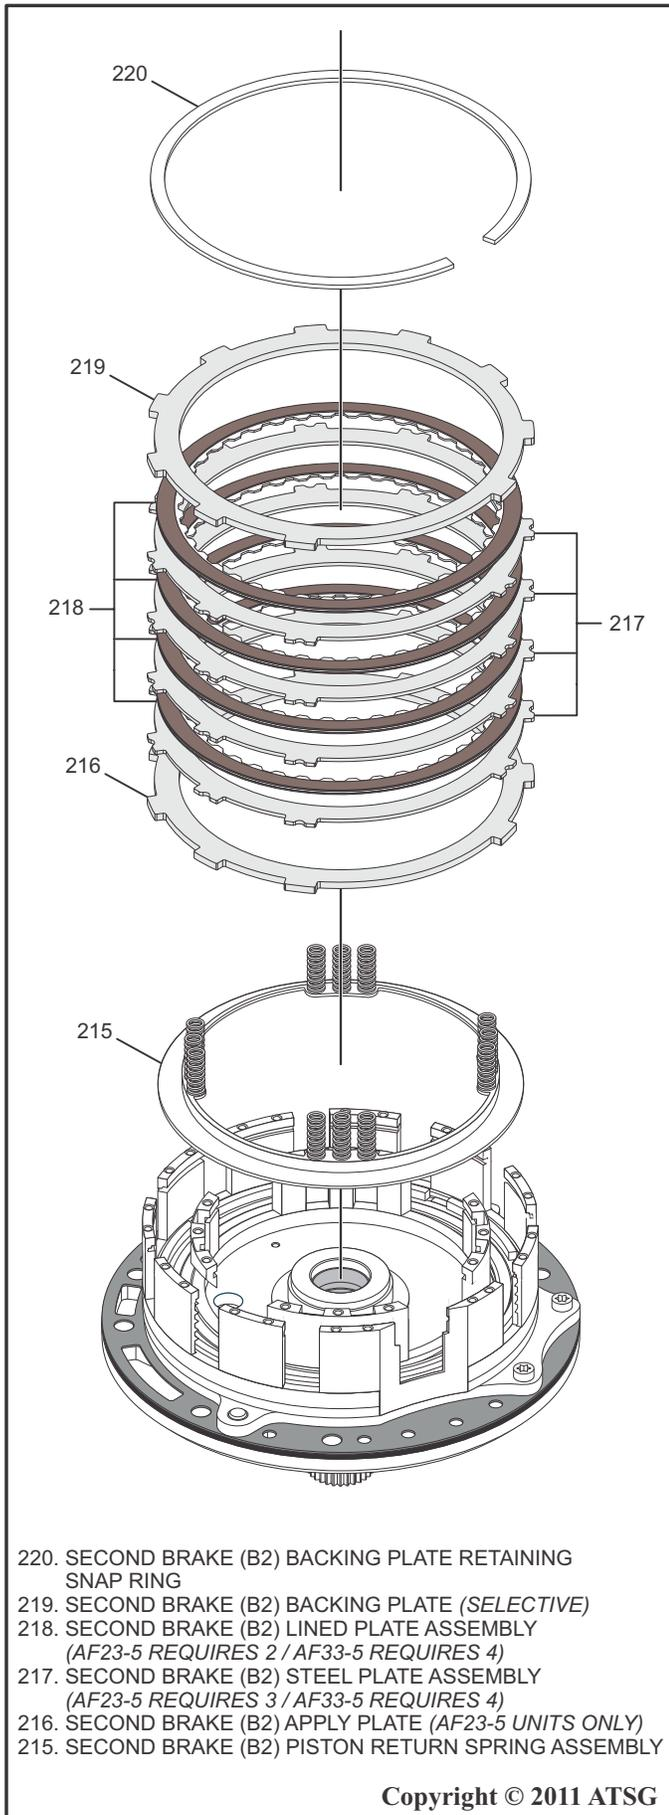

Figure 95
7. Using SST J 28585 or a small screw driver, remove Second Brake (B2) Backing Plate Retaining Snap Ring as shown in Figure 95.
8. Remove the Second Brake (B2) Backing Plate, the Lined Plate and Steel Plate Assemblies (discard the lined plates) and the Apply Plate as shown in Figure 95.
9. Remove the Second Brake (B2) Piston Return Spring Assembly as shown in Figure 95.